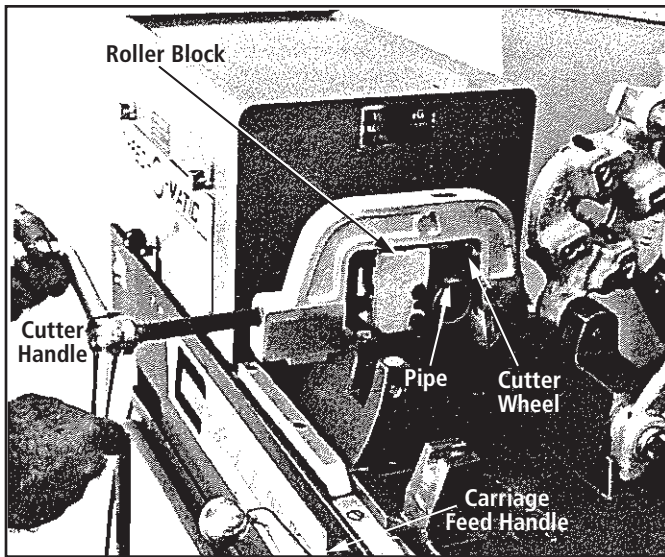

Figure 7
3. With roller block retracted to fit over pipe or rod, bring cutter down and turn cutter handle (Fig. 7) clockwise to force cutter wheel against stock to make cut.